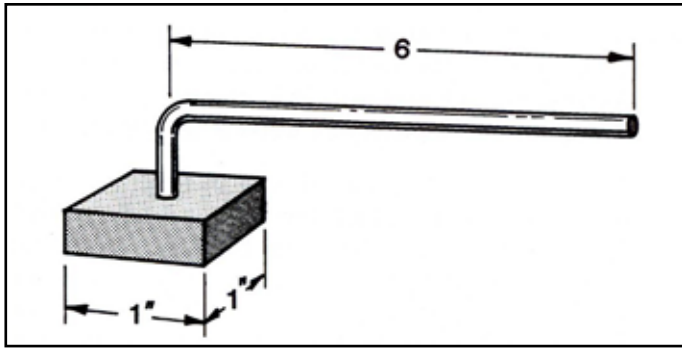

Figure 9-11 - Gage Block
- Note:** *A gage block (Figure 9-11) with at least a 6" (150mm) handle must be used to keep hands and fingers as far from the cutting edge of the knife as possible.*